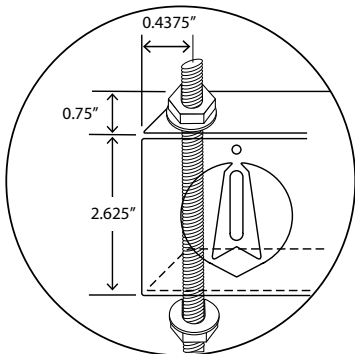

Figure 1
- 1) Mount trapeze bracket to structure of building with rods, nuts, bolts and washers as shown in detail *Figure 1*.